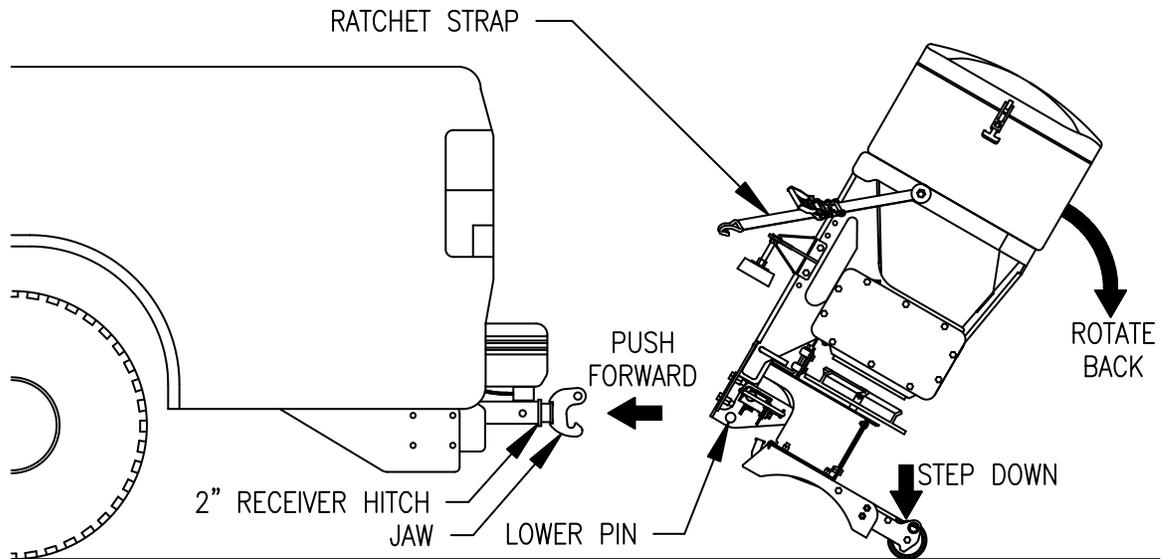

Figure 10. RT3 Attachment Mounting Procedure
5. Grip Spreader firmly, step on Leg Assembly and rotate back until Bottom Pin is high enough to clear RT3 Attachment Hook Jaw, refer to Figure 10.